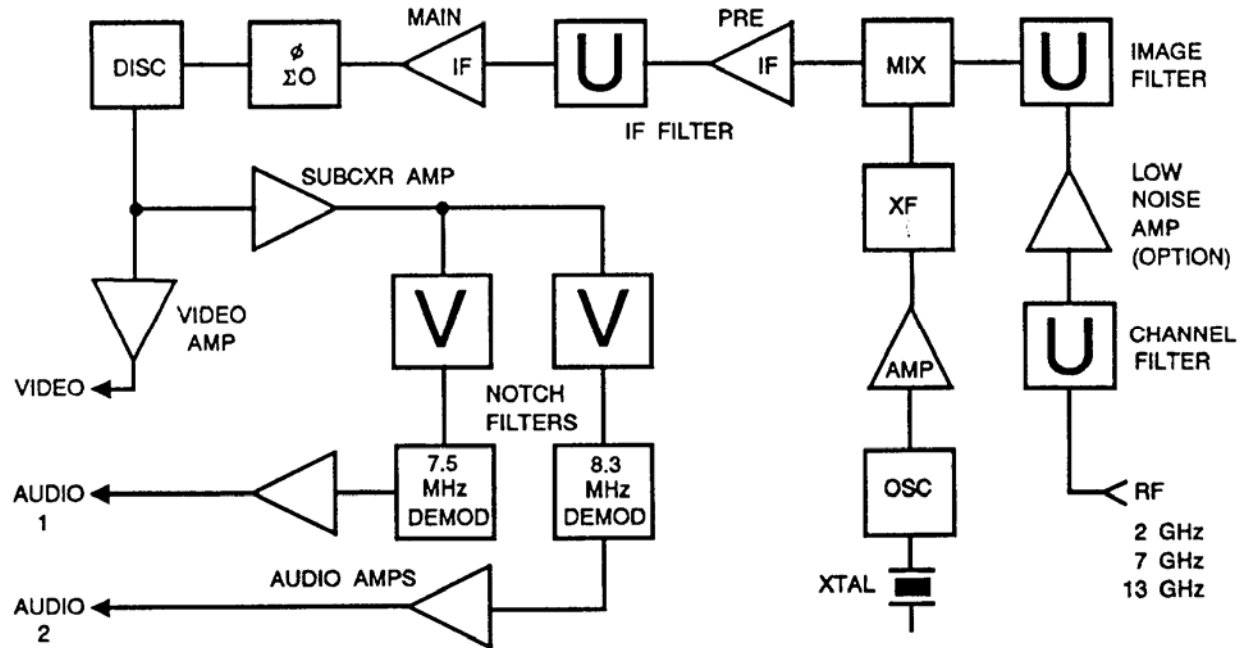

Figure U-2. Receiver Block Diagram
(1) All TV microwave receivers are typically super-heterodyned with a 70 MHz IF amplifier as shown in Figure U-2. For broadcast work, the local oscillator and mixer should be broadband to eliminate the need for tuning when switching to a variety of different frequencies.